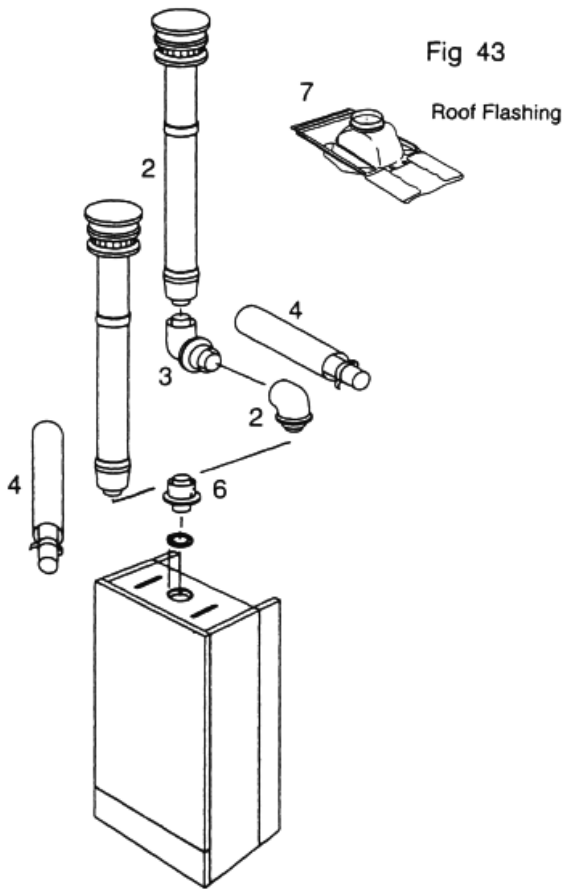

Fig 43
- Position the straight header on the top of the appliance (Fig 43) Item 6, and ensure that the gasket and sealing rings are correctly fitted.
Fit a roof flashing sleeve (Fig. 43) to the roof, available from Ravenheat Manufacturing.